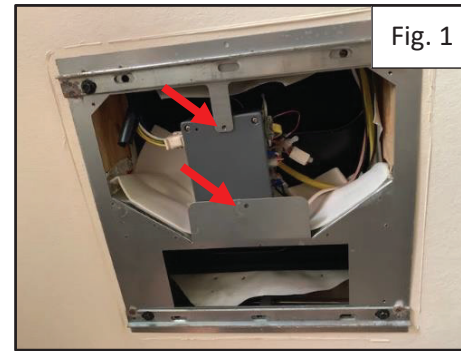

Fig. 1
5. Remove the two screws securing control box (see fig.1).